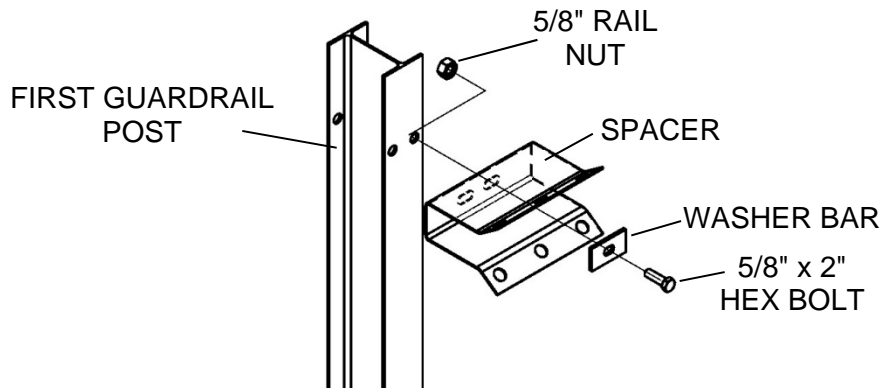

Figure 9 - Spacer Attachment
- 4.2 Use (1) 5/8" x 2" hex bolt, (1) Washer Bar and (1) 5/8" rail nut to attach the Spacer to the first Guardrail Post. All of the Spacers have two slots on the inside for mounting. Orient as shown in Figure 9 (Guardrail Panel not shown for clarity).